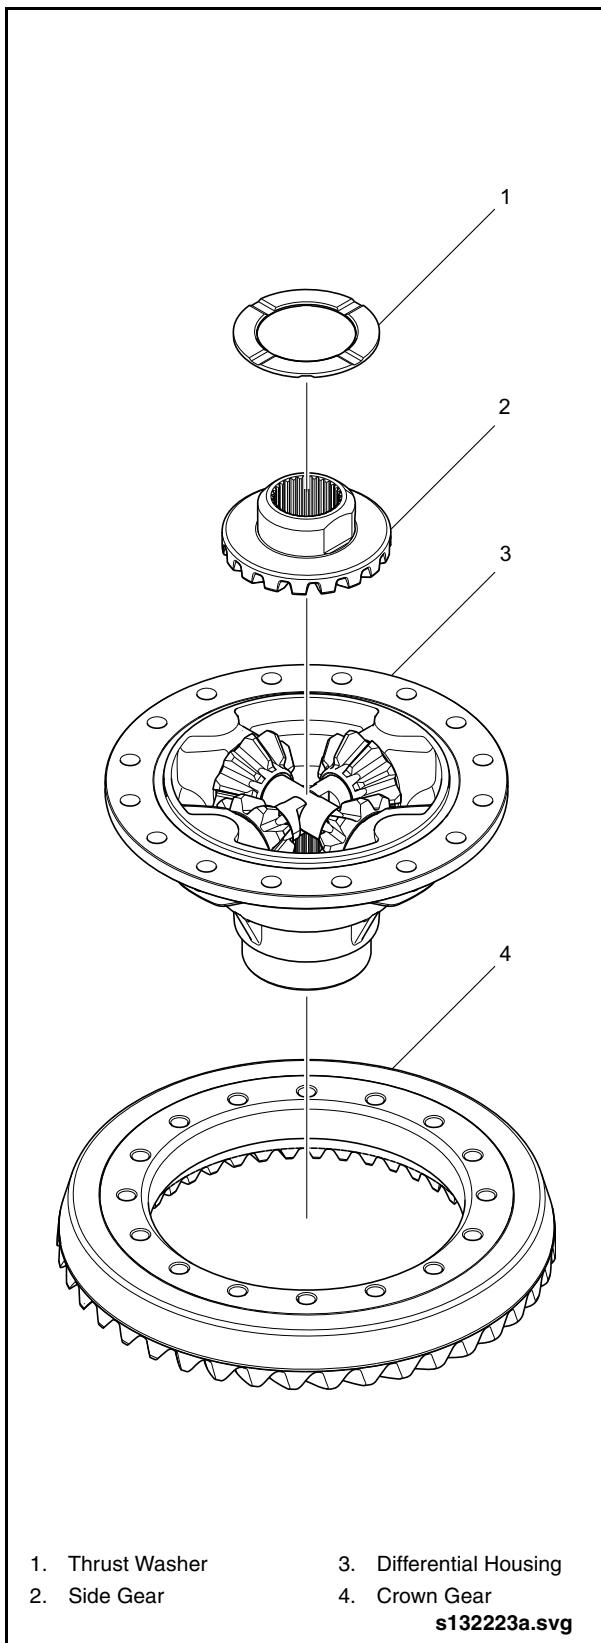

Fig. 2-60: Differential Side Gear
1. Remove the differential side gear and thrust washer from the differential housing. See "Fig. 2-60: Differential Side Gear" on page 54.